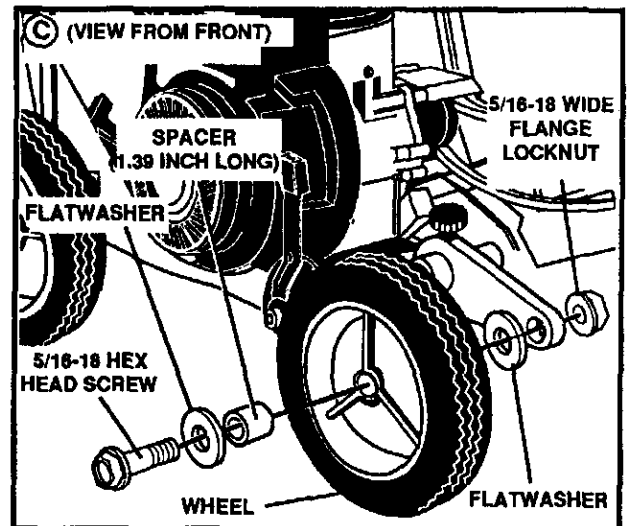

FIG. 2C
- Attach the front wheel to the edger/trimmer (See Fig. 2C) with a 5/16-18 x 3.00 inch hex head screw, two 11/32 x 11/16 inch flatwashers, one spacer (1.39 inch long) and a 5/16-18 hex head wide flange locknut (found in parts bag).